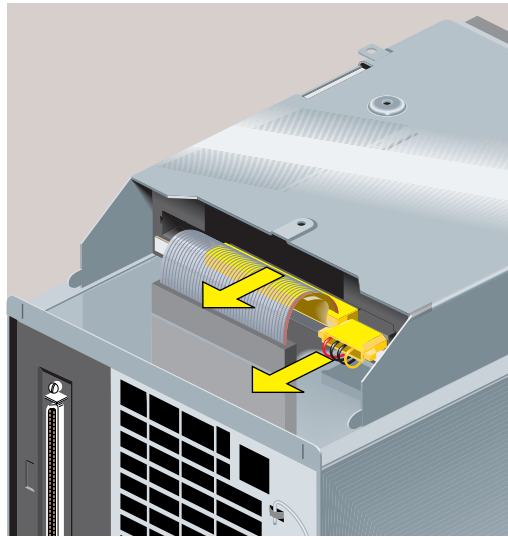

Figure 5-52 Disconnecting the SCSI and Power Cables
10. Disconnect the SCSI and power cables as follows (Figure 5-52).